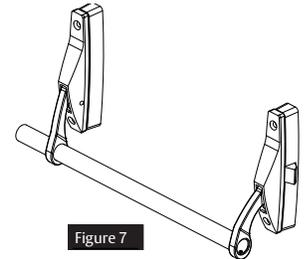

Figure 7
1. Slide bar through active and inactive case with screw hole towards active case. Screw plug and bar onto active case with 10-24 x 3/4" cap screw. (Figure 7)